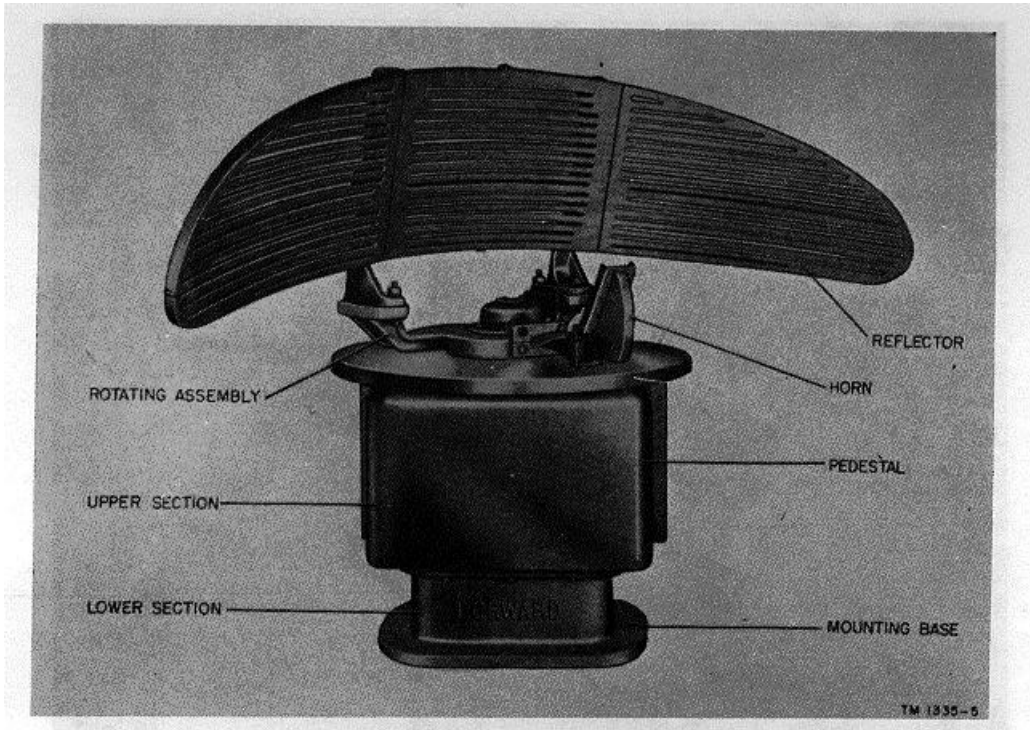
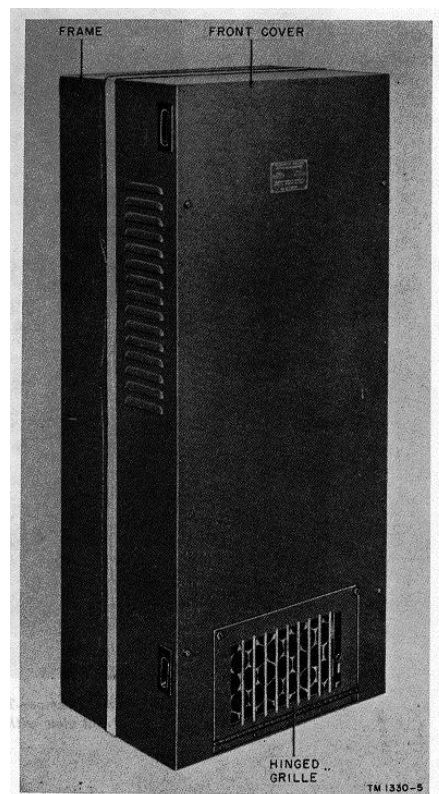
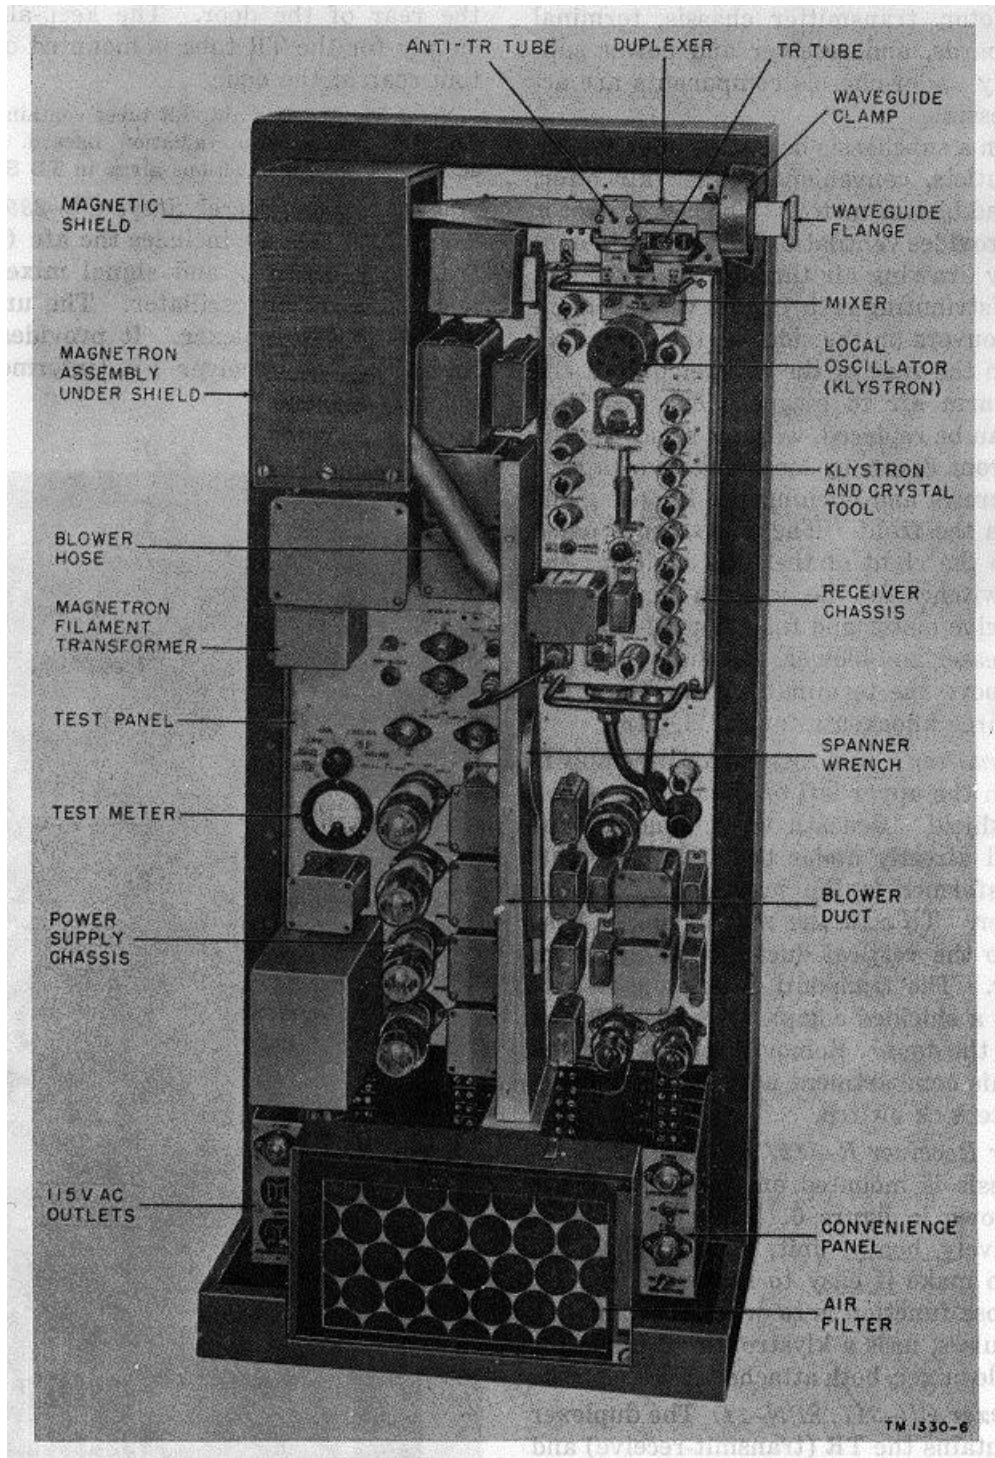

Figure 2. Antenna AS-659/SPN-18
Figure 5. Radar Receiver-Transmitter RT-290/SPN-18.
Figure 6. Radar Receiver-Transmitter RT-290/SPN-18, front view with cover removed.
The antenna assembly (fig. 2) consists of a fixed pedestal and a rotating assembly.
b. *Rotating Assembly.* The rotating assembly consists of a circular plate (rotating head) on which the antenna horn and reflector are mounted (fig. 2).
- (1) The antenna horn is a special waveguide section with a sealed, rectangular plastic window. The horn is connected to a twisted section of waveguide extending from the rotating joint. The function of the horn is to radiate radar energy and receive echo energy.
- (2) The antenna reflector is a parabolic type made of cast aluminum coated with a protective plating. The reflector directs the radar energy from the horn through the search area, in the direction the reflector is facing. Similarly, it picks up and directs echo signals to the horn.
a. *Receiver-Transmitter Cabinet.* This cabinet (fig. 5) contains the transmitter, receiver, power supplies, duplexer, transmitter test panel, convenience panel, and ventilating system components. The components within the cabinet are made accessible by removing the front cover (fig. 6), which is secured by four captive screws.
- c. *Radar Receiver R-572/SPN-18.* The receiver chassis is mounted on the front of the door as shown in figure 6. Since the receiver is a relatively heavy unit, two handles are attached to make it easy to remove. The receiver, whose function is to detect and amplify the echo pulses, uses a klystron local oscillator and a double mixer, both attached to the chassis.
- d. *Duplexer CU-311/SPN-11.* The duplexer (fig. 6) contains the TR (transmit-receive) and anti-TR tubes, and is connected to the waveguide at the upper right of the door. The TR tube prevents transmitted pulses from entering and damaging the receiver input circuits; the anti-TR tube prevents received echoes from entering and being dissipated in the magnetron. The TR tube extends through a hole to the rear of the door. The keep-alive power supply for the TR tube is mounted on the bottom rear of the door.
- e. *Frequency Mixer Stage CV-239/SPN-11.* The mixer (fig. 6) includes the afc (automatic frequency control) and signal mixer crystals and the klystron oscillator. The unit is connected to the duplexer. It provides a 30-mc input for the receiver i-f (intermediate-frequency) stages.
f. *Power Supplies.* The power supplies for the transmitter, receiver, duplexer, and indicator are located on the front and rear of the door (figs. 6 and 7). A test meter on the panel is used to check the various outputs.